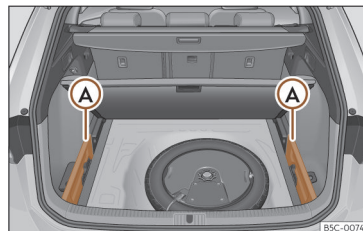

Fig. 123 In the luggage compartment: space to store the retractable shelf.
- Remove the left and right covers >>> **Fig. 123** **A**.